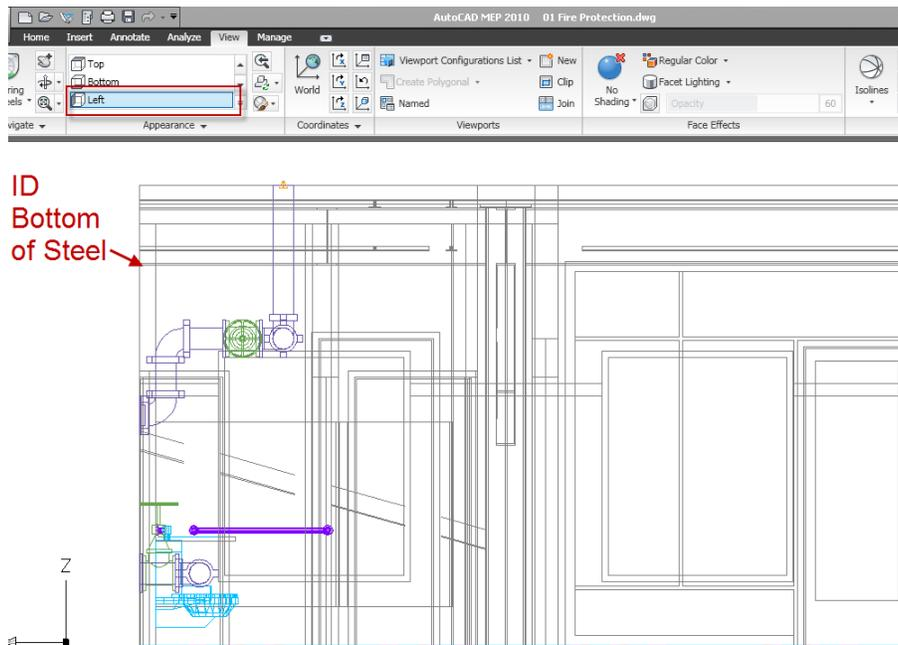

Figure 6.76
- Using the Nearest osnap, ID the lowest points on the Steel objects (see Figure 6.76). If you are getting a Z value of 0, make sure the Replace z value with current elevation is toggled off.